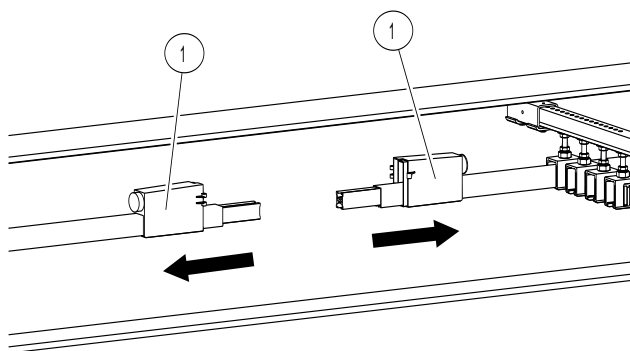

Fig. 69: Slide one insulating cap half of the connector over the rail ends
- Slide one insulating cap half (Pos. 1) of the connector over the rail ends (see Fig. 69).